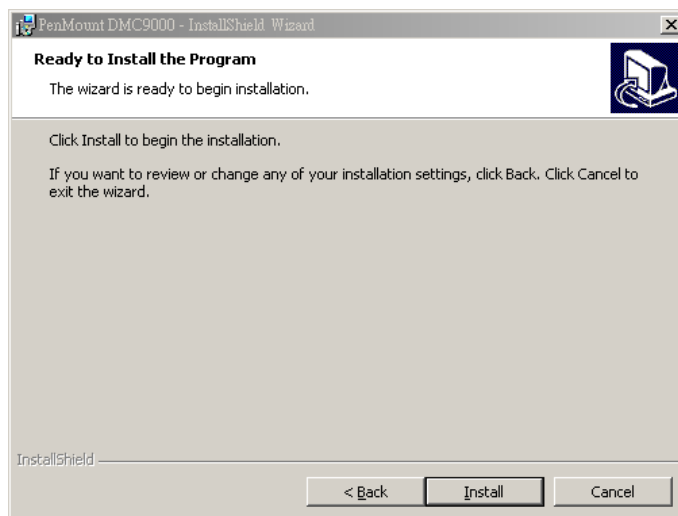

Figure 6-26: Ready to Install the Program
Step 4: Click **NEXT** and the Installshield Wizard is ready to install the program (Figure 6-26).